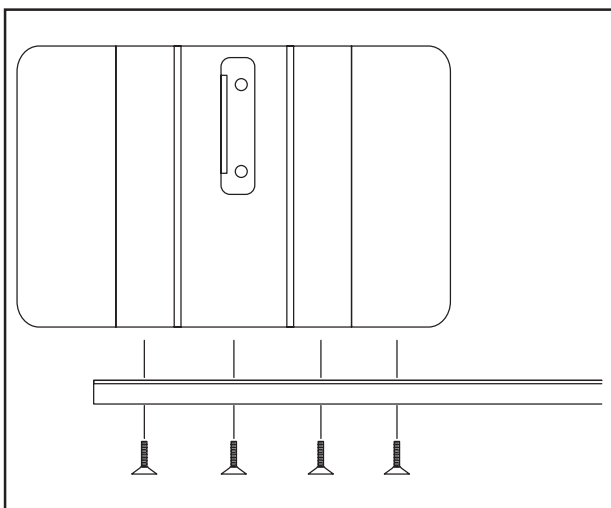

Figure 10. Front rail attachment procedure.
3. Attach the front rail to the table top using the hex socket flathead screws as shown in **Figure 10**. Place an adjustable square on the edge of the table, and adjust the rail so it is consistently $2\frac{5}{32}$ " below the top of the table.